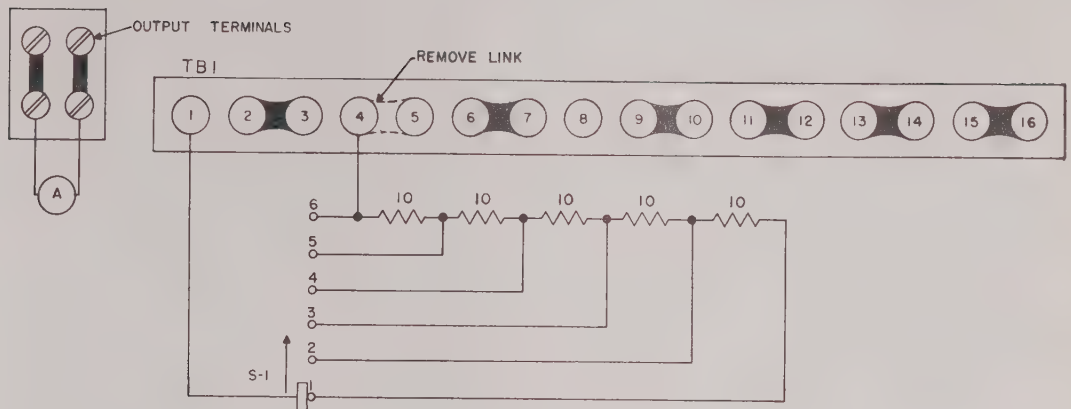

FIG. 3-7 CONNECTIONS FOR RESISTANCE PROGRAMMING (CURRENT MODE)
- a) Since we need 50 ohms total resistance for R_{cc} , five 10 ohm resistors are connected to a 6 position switch (with shorting contacts) as shown in Fig. 3-7.